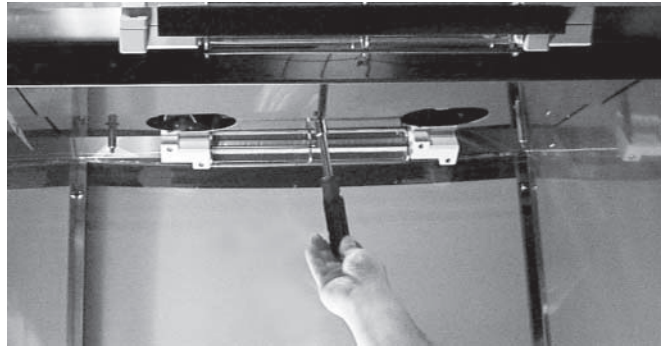
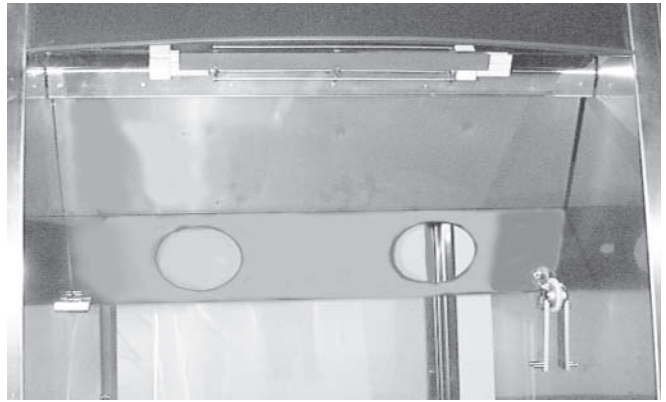

Fig. 61
Fig. 62
- Using a  $\frac{7}{16}$ " nutdriver, remove the center nut that secures the element cover (Fig. 61). Allow the element cover to swing down toward you (Fig. 62).